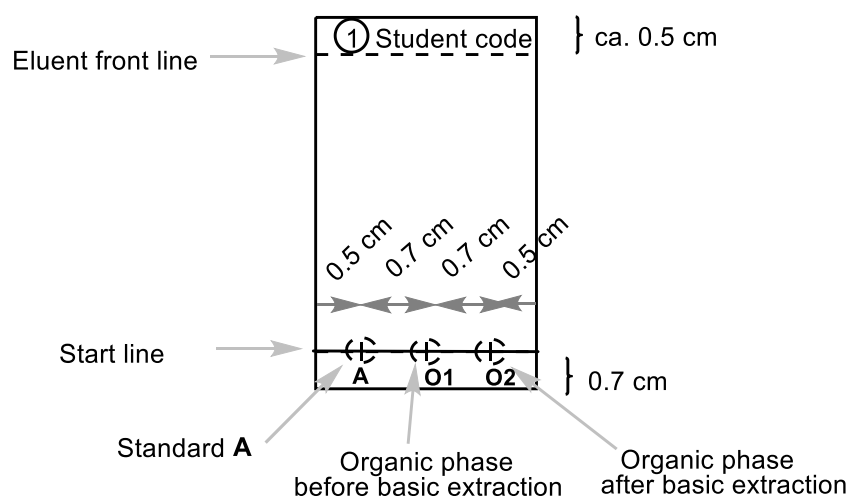

Figure 2. Instructions for the TLC plate preparation.
- Prepare your TLC plate. Check it before use. Unused damaged plates will be replaced upon request without penalty. Use a pencil to draw the start line and mark the positions for spotting the samples. Write number **1** in a circle and your student code on the top of the TLC plate as shown in Figure 2. Dissolve the given sample of 2-acetonaphthone in a vial (**Standard A**) in ca. 2 cm³ of ethanol (about 1 full glass Pasteur pipette). Mark three spot positions and label them **A**, **O1**, and **O2**. Spot 1 μL (one mark of the 5 μL capillary spotter) of standard **A** and the combined organic phase from step II.3 (**O1**). You will add spot **O2** later.